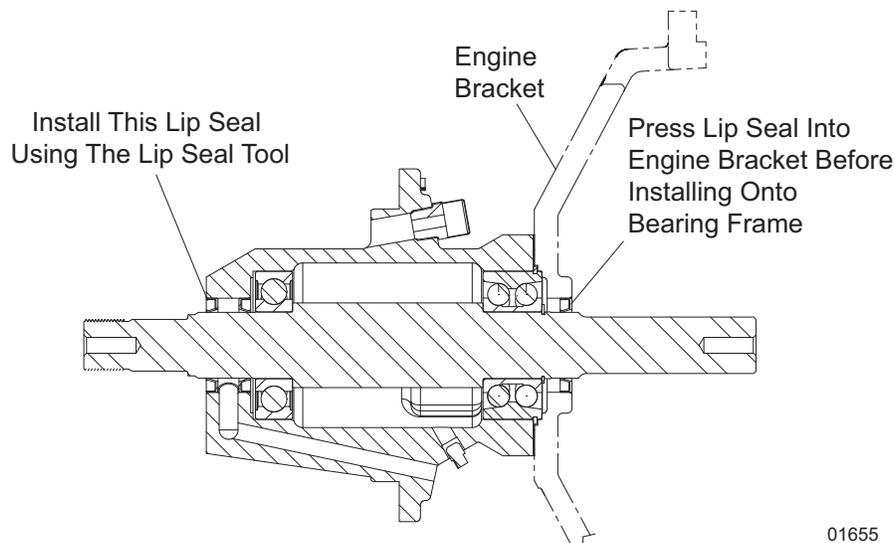

Figure 24 - Installing the Lip Seals
3. Apply a thin film of aviation sealant to the outside diameter of the drive end lip seal and press it into the engine bracket. Refer to Figure 24 on page 55.